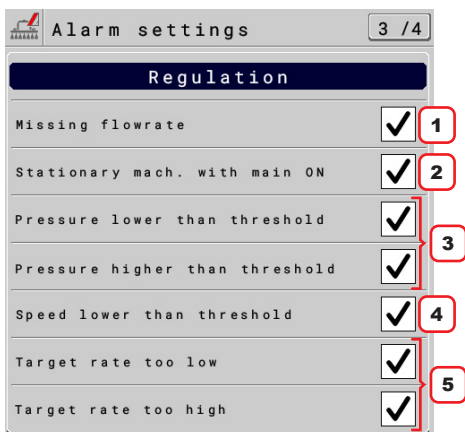

Fig. 87
Set the pressure limits for the selected nozzle and enable the appropriate function of the Alarms menu (ref. 3 Fig. 87 on page 39) if you want the system to generate an alarm when the nozzle is outside the set limits.
Set the pressure limits for the selected nozzle and enable the appropriate function of the Alarms menu (ref. 3-4 Fig. 87 on page 39) if you want the system to generate an alarm when the nozzle is outside the set limits.